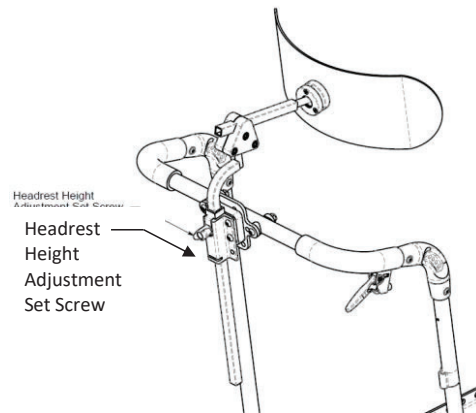

Figure 14.41: Headrest
1. If the chair does not tilt when the trigger is pulled – the cable wire is too loose and needs to be tightened. To do this, the cable wires height has to be lengthened. This adjustment is made by the height adjustment nut, as illustrated in Figure 14.41. Rotate the adjustment nut clockwise lengthening the sheath and thus tightening the cable wire.
2. Check tilt function and if acceptable tighten the height adjustment jam nut (Figure 14.41), securing the cable tension in place.